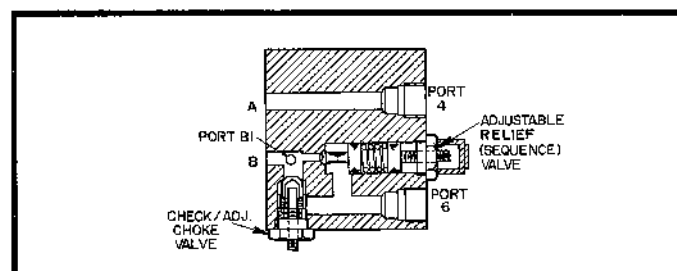

Figure 6. Type "R" Resistance Control (508737D).
3. Resistance Control. Refer to figures 6, 2 and 3. An integral sequence type relief valve assembly is connected to Port 6. When system pressure (such as in "kicker cylinders") builds up at Port 6 to an adjustable preset value (300 to 1500 psi - 20 to 103 bar), the sequence valve opens (and remains open) porting fluid through Port "B" to the operating ram and closes the prefill plunger. When pressure at Port 6 is reduced, pilot pressure applied through Port 4 to Port "A" will open the prefill valve. Opening rate can be adjusted by the integral check/choke assembly which meters fluid flowing back through Port "B" to Port 6. **NOTE:** To open the prefill valve, pressure generated at Port "B" (when pressure is applied to Port 4) must be greater than the pressure remaining at Port 6.